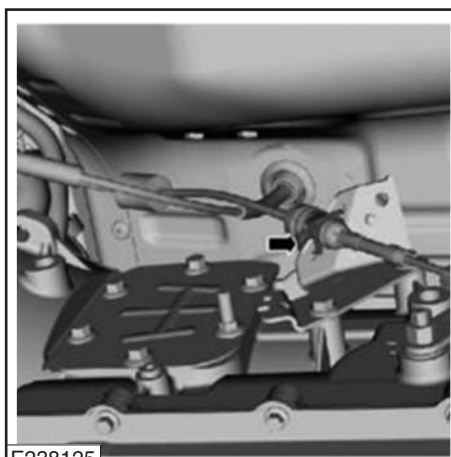

Figure 92
5. Remove the clip and the selector lever cable (**Fig. 92**).